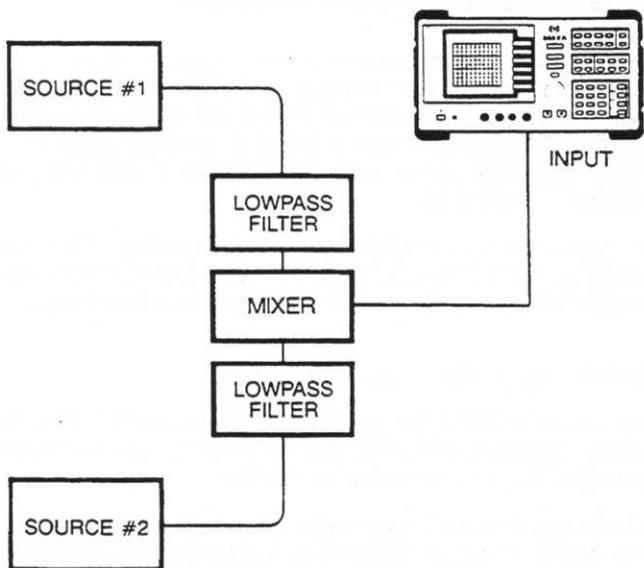

Figure 2-15
1. Connect the equipment as shown in Figure 2-15.